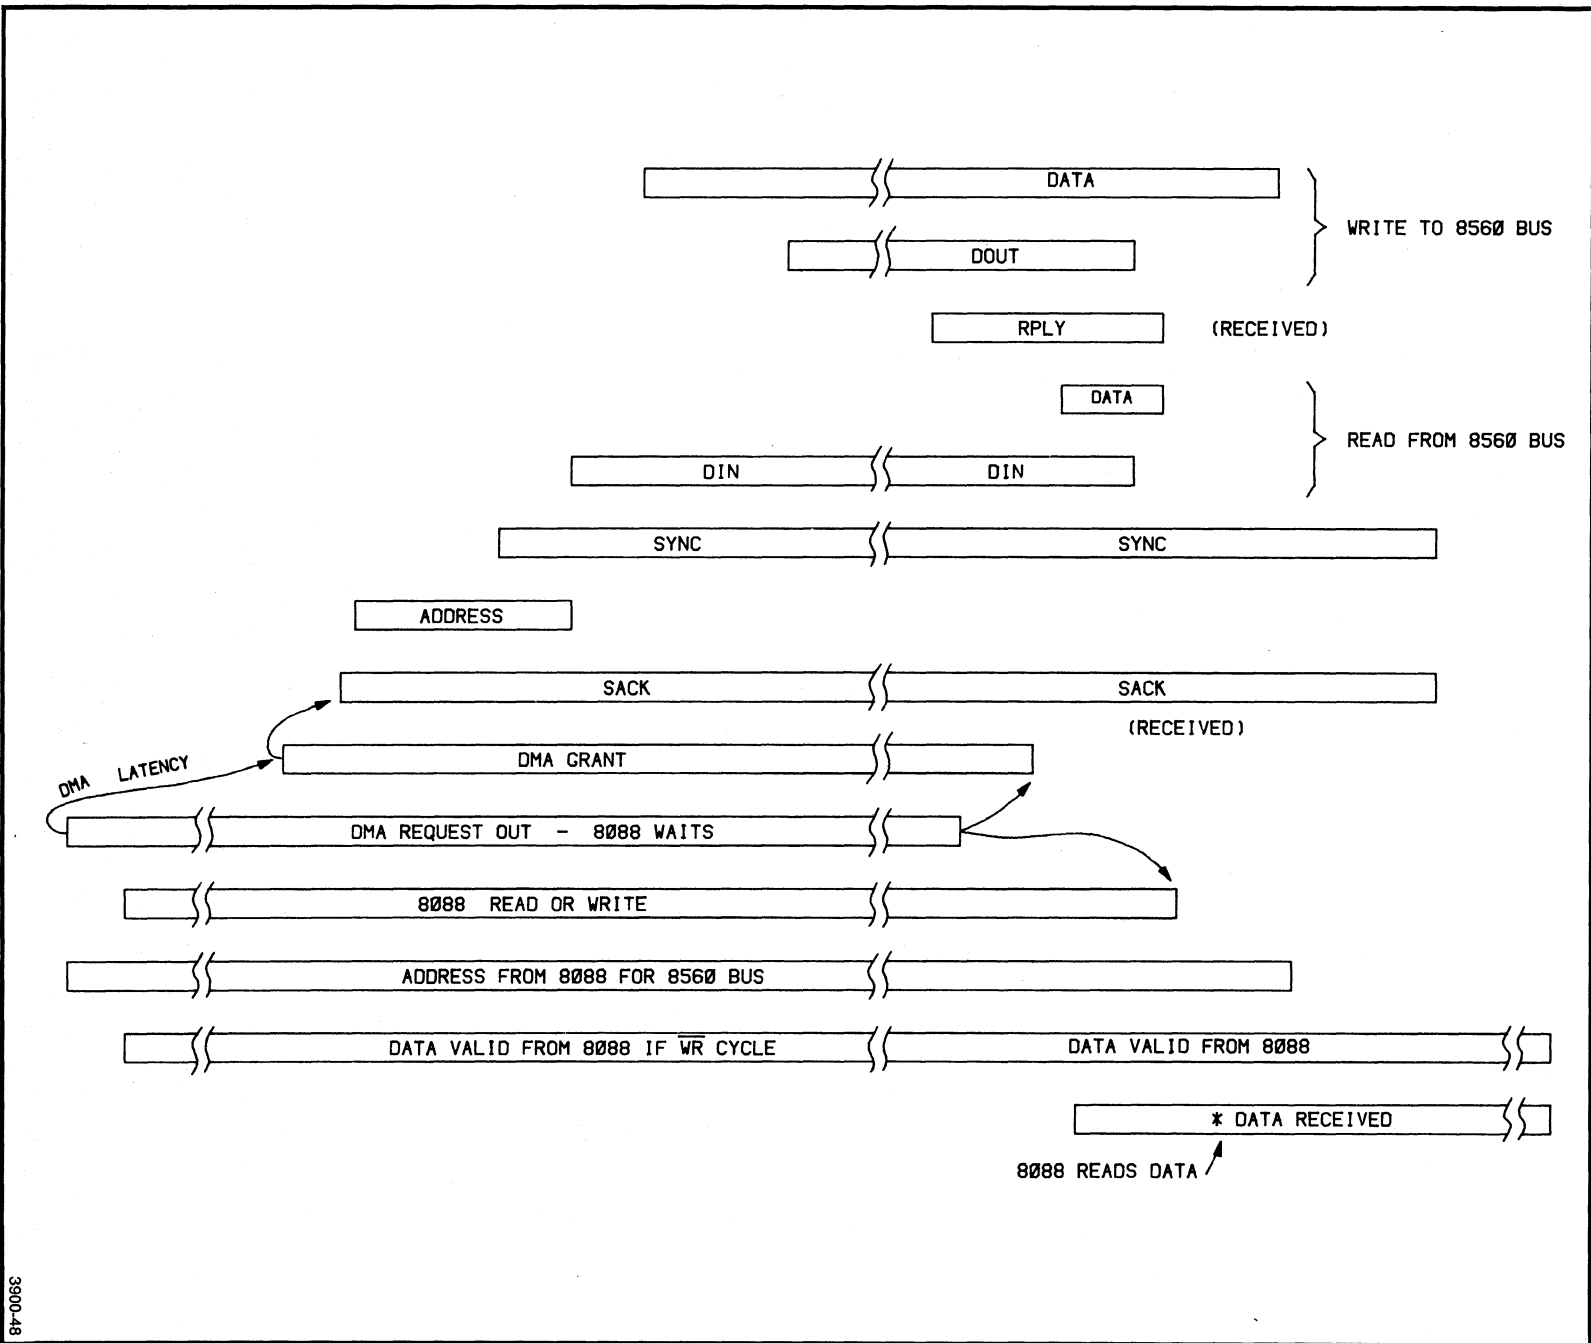

Fig. 7-4. System bus access timing.
Figure 7-4 shows the timing relationship between the 8560 bus and the 8088. When the 8088 accesses the 8560 bus, the DMA circuit signals the 8284 baud rate generator to extend the 8088's read or write cycle. The 8088 clock logic receives a signal instructing it to wait, and the 8560 bus receives a request for bus mastership. When the request is granted, the timing progresses until either the DIN(L) or DOUT(L) signal goes low. The DMA logic then waits for the accessed device to return a reply. When the reply is received, the DMA logic completes its timing and negates the WAIT signal allowing the 8088 to complete its read or write cycle. If a reply is not detected before the one-shot U6170 times out, bit 6 in the Miscellaneous Register is set to indicate an error condition, and U6080 is allowed to terminate the DIN or DOUT cycle.